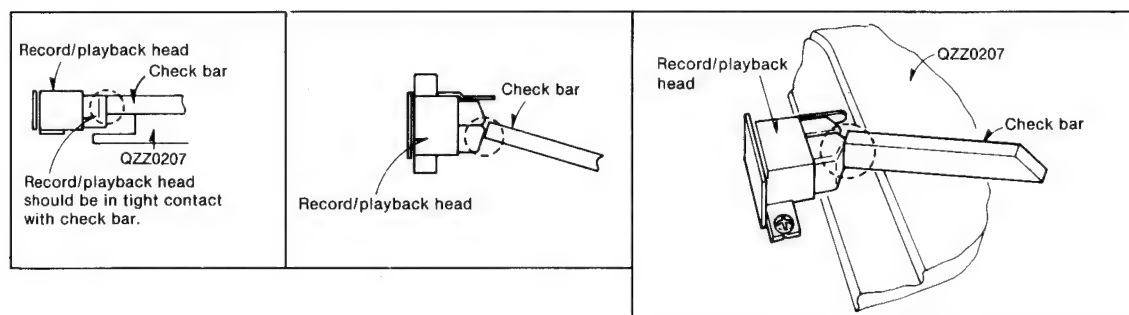

Fig. 9
- Next, by using the check bar as in Fig. 9, adjust only screw (A) if the record/playback head does not come in tight contact with one side of the check bar. (Adjustment of record/playback head bounce).